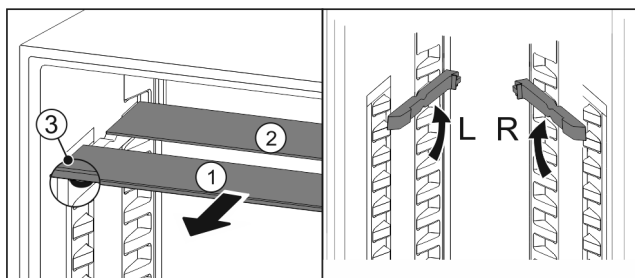

Fig. 56
- Pull the glass panels out Fig. 56 (1) from the front, one at a time.
- The glass panel Fig. 56 (1) and trim strip are at the front.
- The stops Fig. 56 (3) point down.